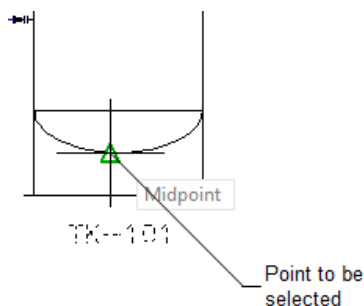

Figure 2-51 Point to be selected on the vessel
1. Invoke the **Primary Line Segment** tool from the **Lines** tab in the **TOOL PALETTES - P&ID PIP** and specify the start point at the bottom of the vessel, as shown in Figure 2-51.